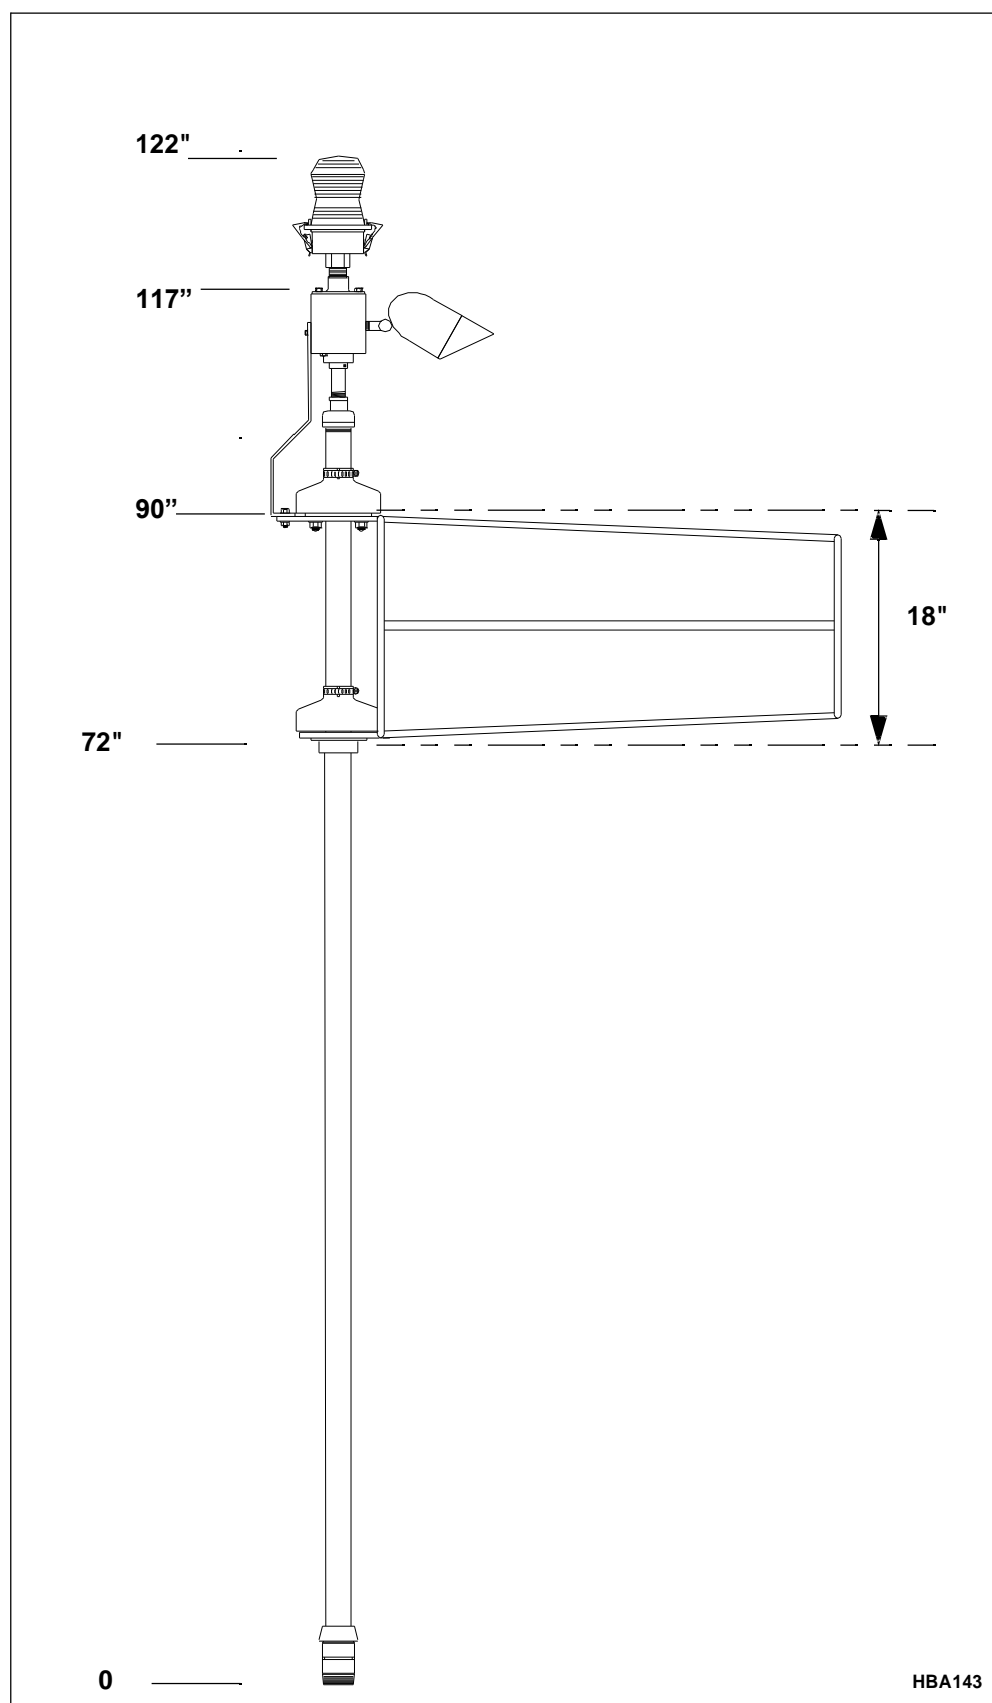

Figure 2. L-806 Dimensions
- a. Type L-806 and L-806(L): see Figure 2